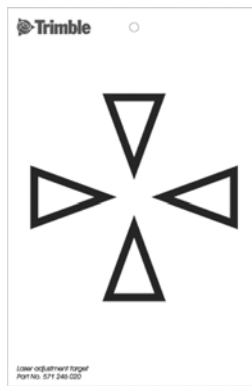
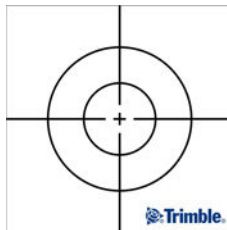

Figure 3.4 Adjustment target for Trimble S5, S7, and S9 Total Station.
Figure 3.5 Adjustment target with reflective foil for Trimble S9 HP Total Station.
3. If the red laser spot lies outside the cross-hairs, adjust the direction of the beam until it matches the cross-hairs, see Figure 3.4 or see Figure 3.5